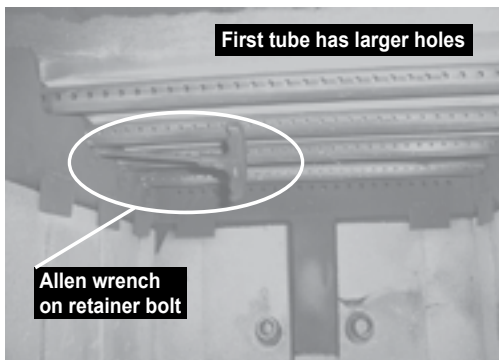

Figure 20A - Manifold tubes in roof of firebox.
3. With a 3/16" Allen wrench, remove 2 front manifold tube retainer bolts on the air channel under the end of the front tubes. **NOTE:** Soak the bolts with penetrating oil for at least 15 minutes before trying to remove them. **See Figure 20A.**